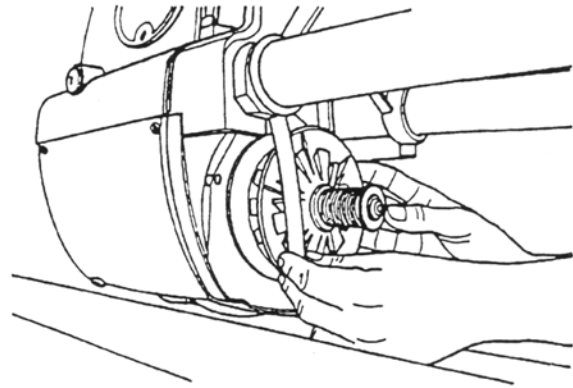

Fig. 1
3. Remove the drive belt from the motor sheaves. Hook the drive belt that connects the drive shaft and the idler shaft over the rim of the floating sheave. Slowly turn the motor by hand, letting the belt ride off the sheave. See Fig. 1.